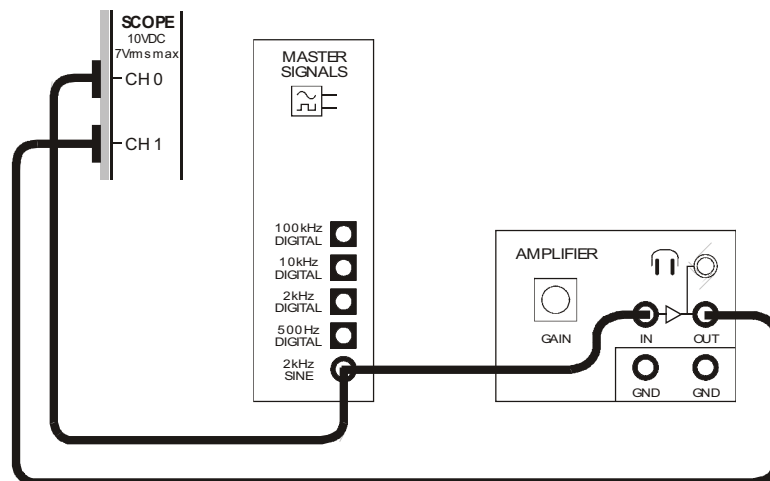
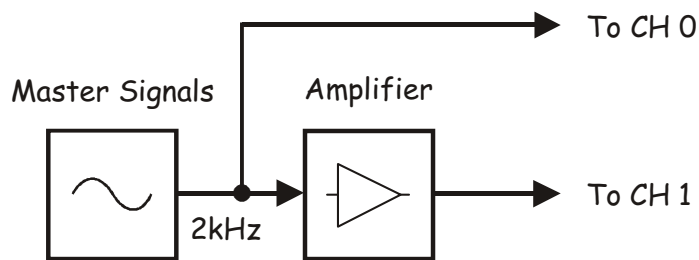

Figure 4
Figure 5
16. Connect the set-up shown in Figure 4 below.
The set-up in Figure 4 can be represented by the block diagram in Figure 5 below.